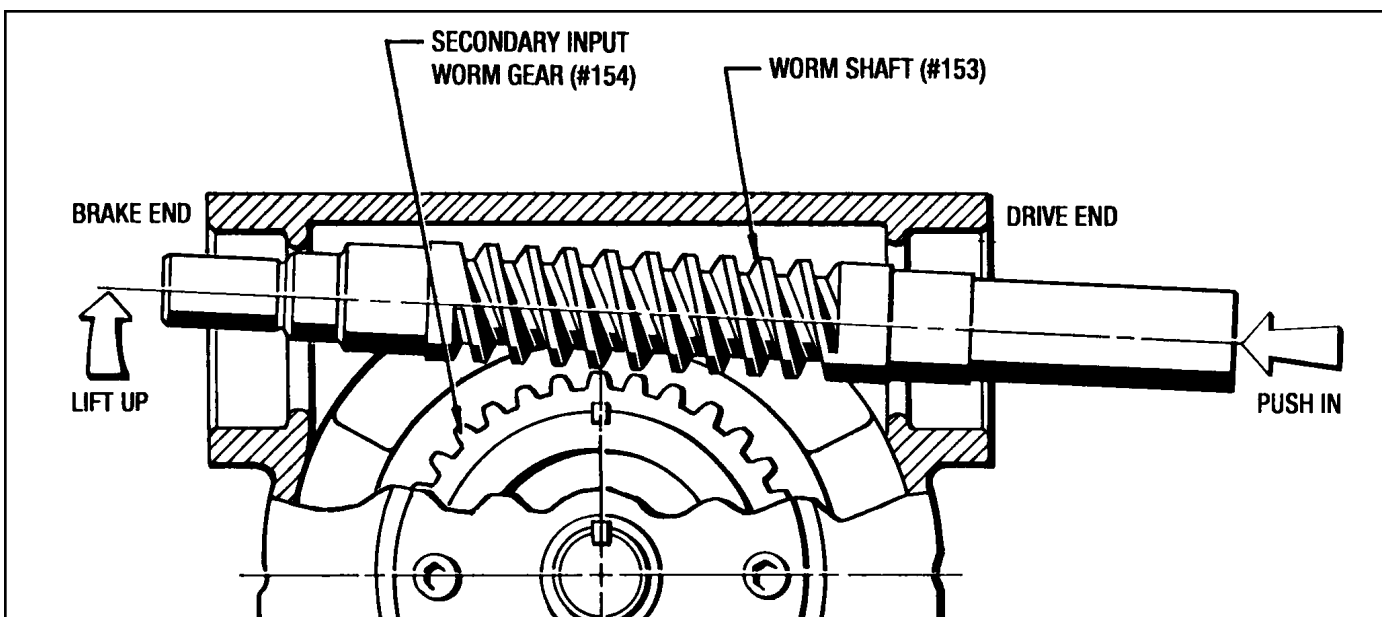

Figure 9.5 - Installing Quill Worm Shaft
1. Insert the brake end of the Quill Worm Shaft (#153) into the Secondary Input Housing (#9). (Manually lift the shaft when inserting it to clear the Worm Gear (#154).) (See Figure 9.5)